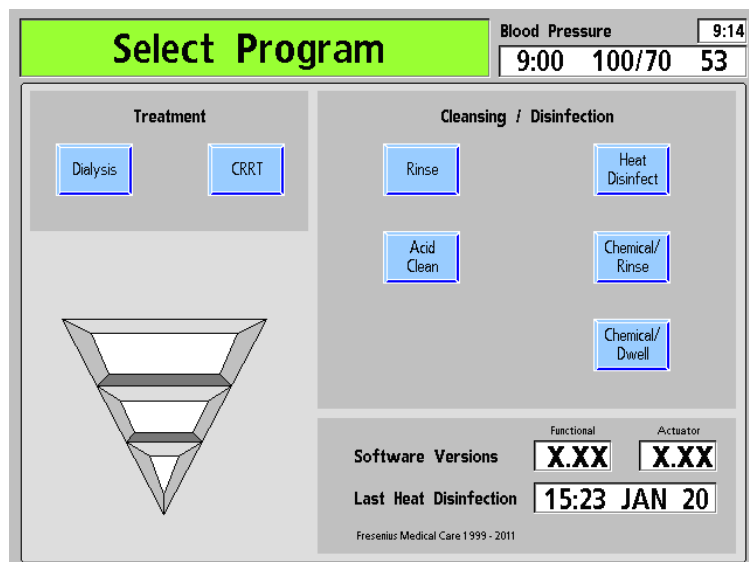

Figure 13 – The Select Program Screen
1. Press the **POWER** key on the control panel. The green light above the key will light, and the “Select Program” screen (see Figure 13) will appear on the monitor.